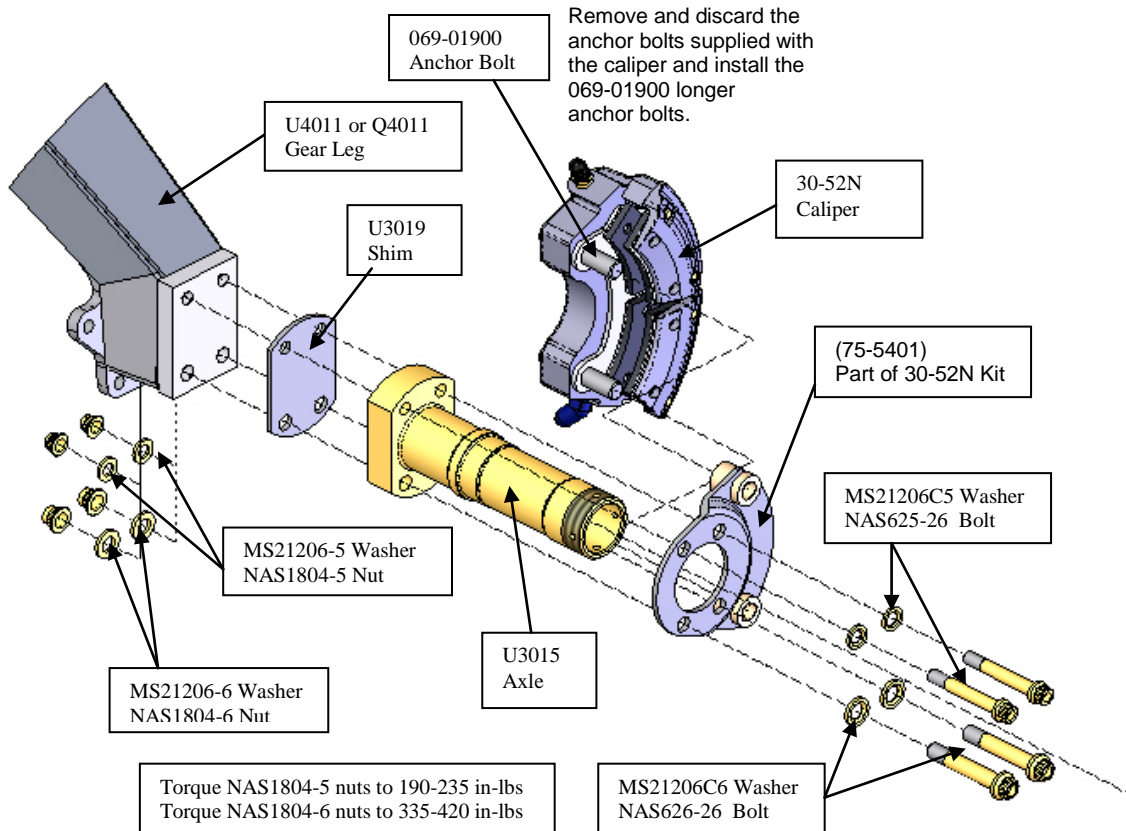

Figure 1 Axle and Caliper Installation
5. Assemble U4011 or Q4011 gear leg per Figure 1.